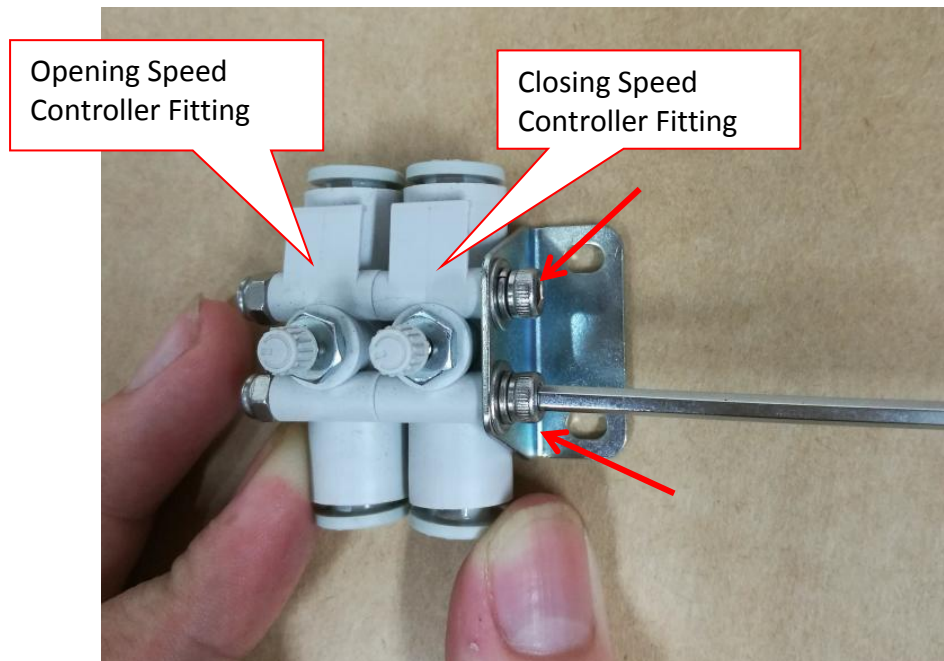

Figure 3 Speed Controller Fitting Assembly
5. Assemble Speed Controller Fitting & tighten-up 2 x Screws as shown in Figure 3